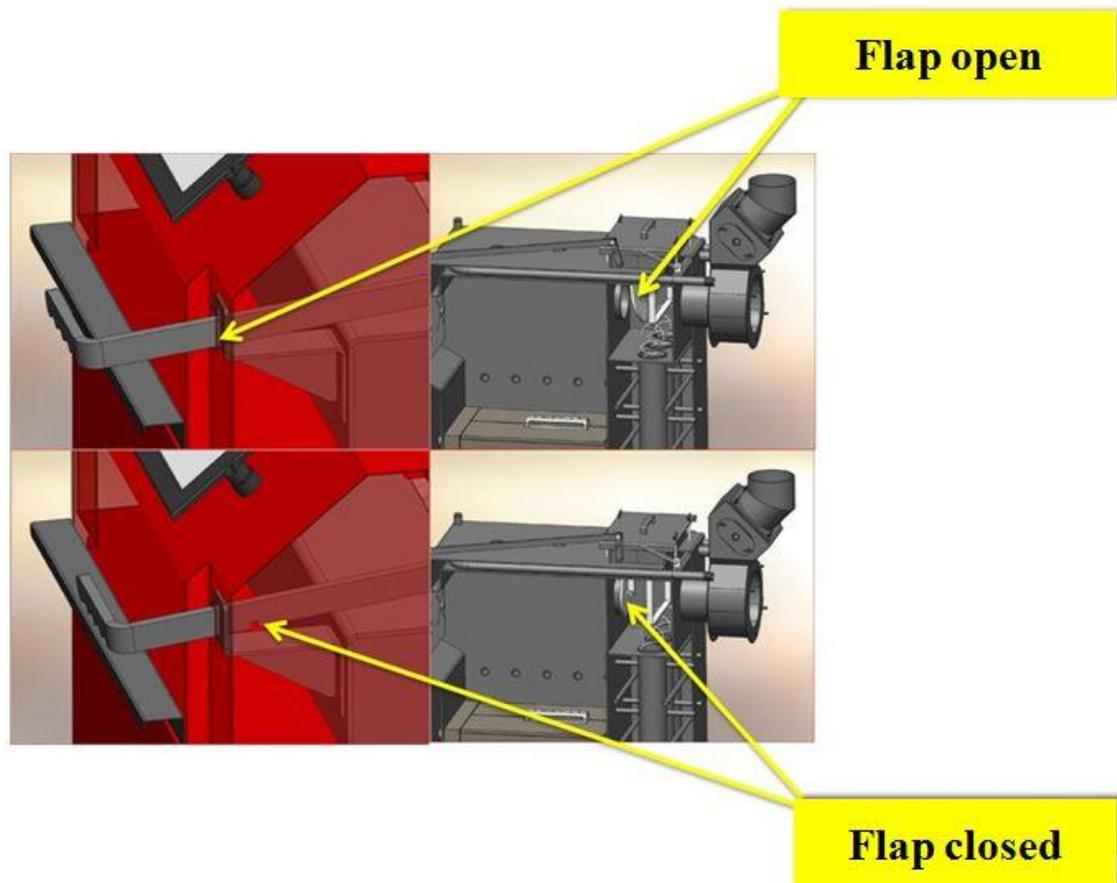

Figure 35. Positions of the flap and the flap handle in the “operation” and “ignition” mode
- Inside the boiler there is a flap for directing the flue gas in two modes “operating” and “ignition” position. This flap is operated by the handle on the front side of the boiler. Move the handle towards you and lock it using the notch on the handle. The flap is in the “ignition” position. (*Figure 35*)